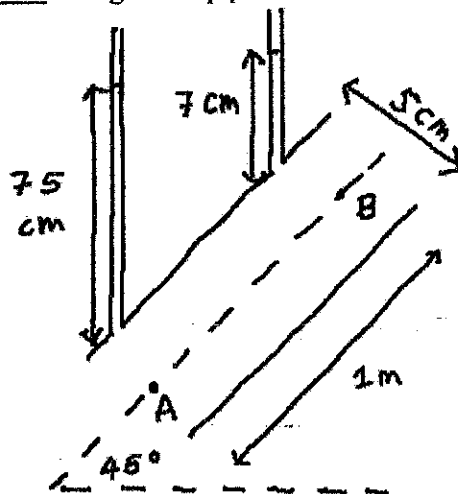

Figure 1
1) Water (density 1000 kg/m^3) flows steadily in a uniform pipe with a diameter of 5 cm which is at a 45 degree angle to the horizontal, as shown in Figure 1. Two simple manometers are connected to points A and B, as shown in the figure. The distance between A and B along the pipe is 1 m. When the discharge is 1.75 litres/second the water level in the manometer at A is found to be 75 cm above the level of the pipe at A while water level in the manometer at B is found to be 7 cm above the level of the pipe at B, as shown in the figure.